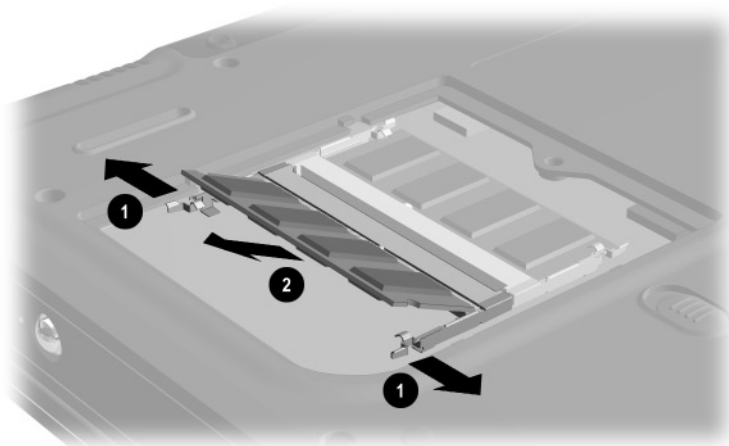

Figure 5-11. Removing a Memory Expansion Board
7. Spread the memory expansion slot retaining tabs ❶ to release the memory expansion board. The board tilts up at a 45-degree angle (Figure 5-11).
8. Remove the board by pulling it away from the connector at a 45-degree angle ❷.